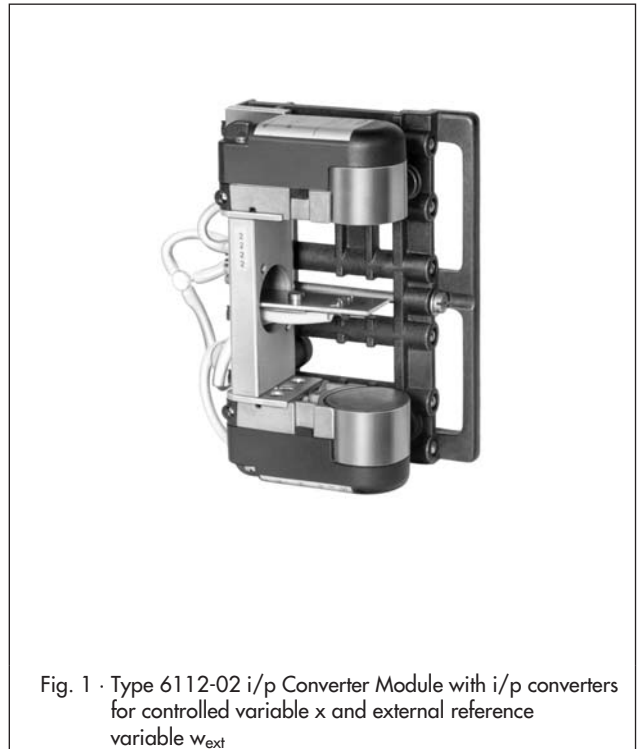

Fig. 1 · Type 6112-02 i/p Converter Module with i/p converters for controlled variable  $x$  and external reference variable  $w_{ext}$
**Type 6112-02** (Fig. 1) · i/p converter module for installation in Type 3430 Pneumatic Controllers